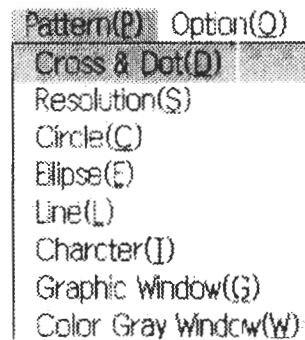

Figure 4-26
③ "Pattern(P)" pull-down menu (Figure 4-26)